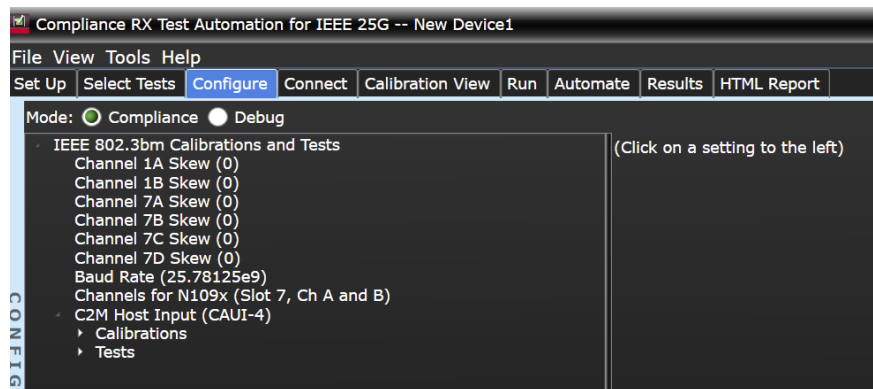

Figure 12 Configure tab of the Compliance Rx Test Automation for IEEE 25G
- 3 Under the **Configure** tab (see Figure 12), chose either Compliance or Debug Mode then modify the configuration parameters based on the values defined in *IEEE Std 802.3-2018, IEEE Standard for Ethernet – Annex 83E, Annex 83D, Clause 111, Clause 110*.